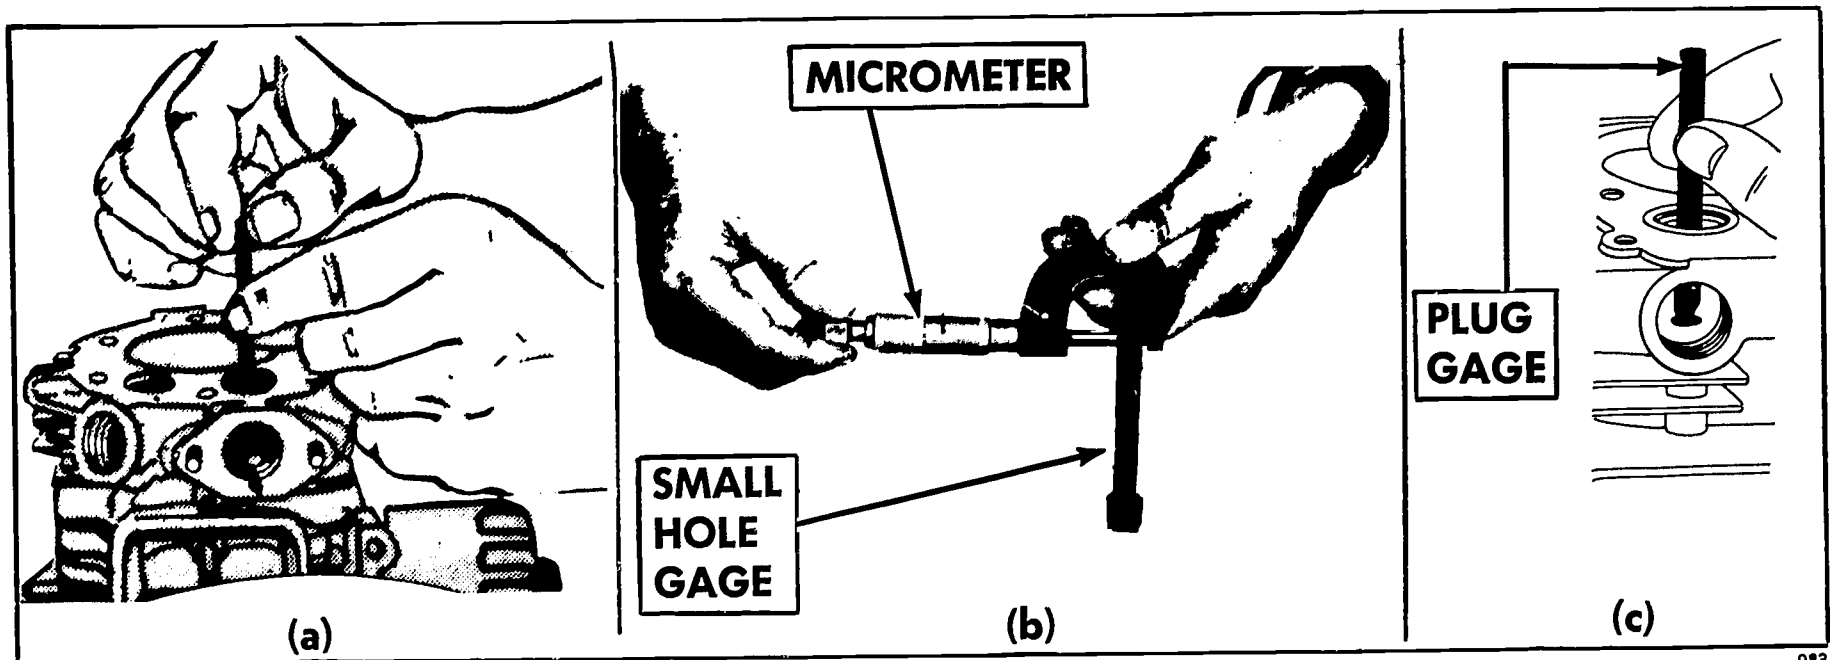

FIGURE 201. Check the valve guide for wear. (a and b) Use a small-hole gage and micrometer, or (c) Use a
6. *Checking the valve-guide bushings (Figure 201).*
9. *Check the dimension and the condition of the newly reamed guide (Figure 201).*